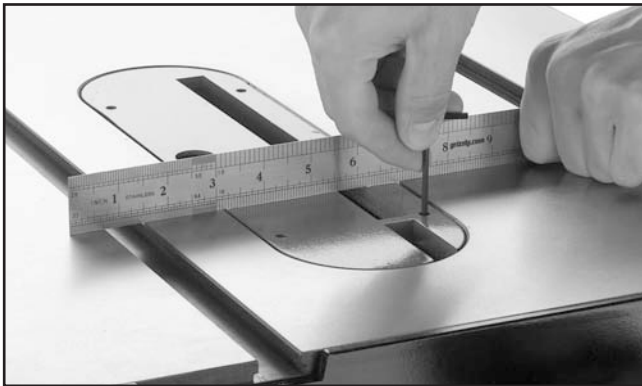

Figure 26. Adjusting insert flush with table.
2. Adjust the table insert set screws to make sure the insert is flush with the table, using a straightedge as a guide, (see **Figure 26**).